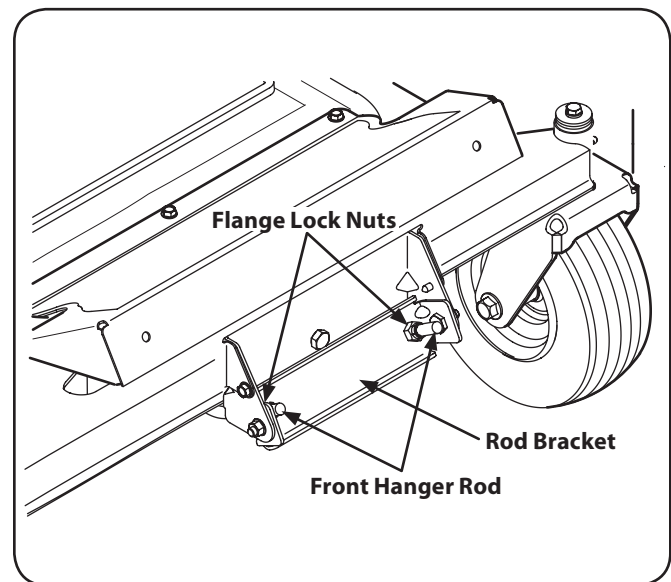

Figure 6-6
4. If the front of the deck was too low, turn the flange lock nuts clockwise against the hanger bracket to shorten the front hanger rod and raise the front of the deck. Refer to Fig. 6-6.